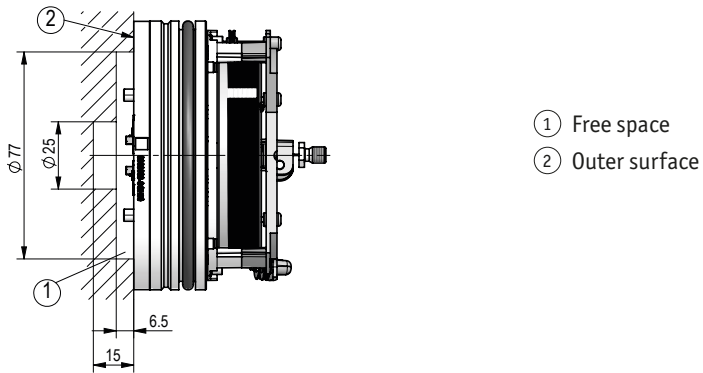

Fig. 3: Mounting free space
- ▶ Observe free space (see Fig. 3). Draw-wire encoder may only be supported on the aluminium outer surface.